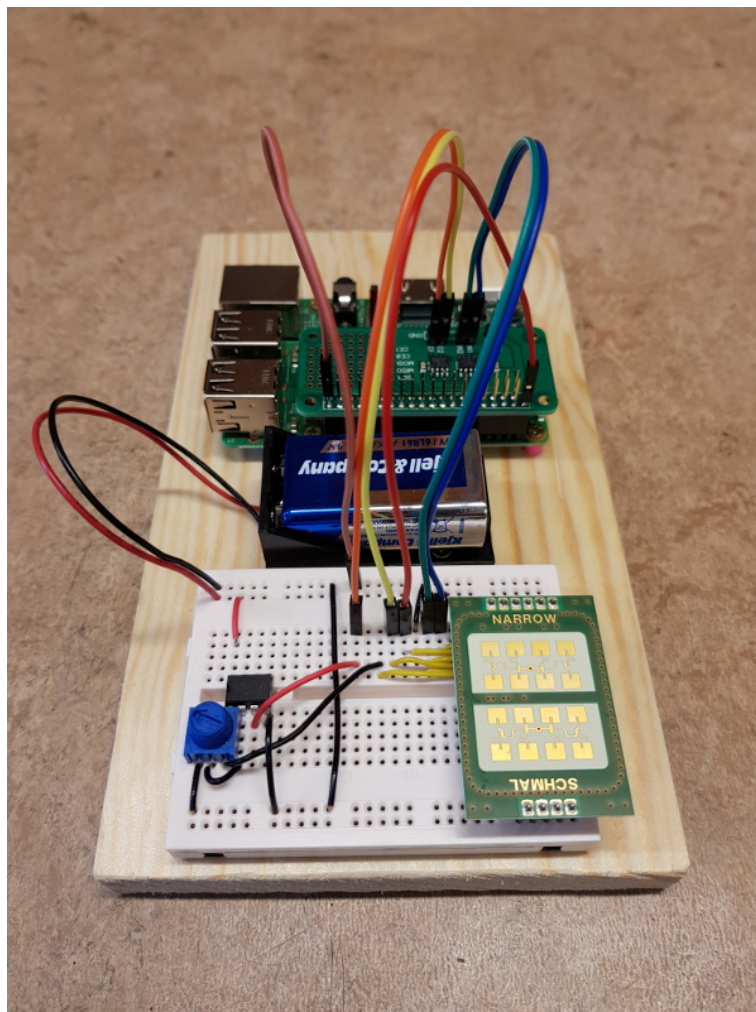

Figure 11: Finished assembly.
- (d) After verification that the amplifier part is working, mount the radar module (part with six pins at the top, four pins at the bottom), see Figure 11. Also connect the Raspberry Pi unit using prototyping connector cables. The pins of the Raspberry can be sensitive if connected to wrong voltage (the whole unit can become useless), be careful and doublecheck everything before connecting!